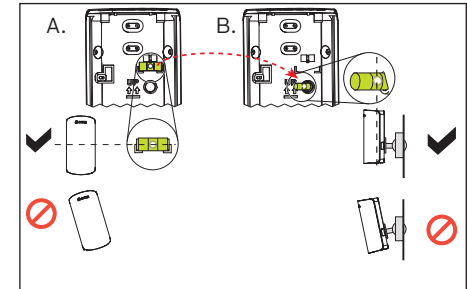

Figure 4.3: Level detector
2. Use the bubble level to ensure the base is level from side to side. Refer to *Figure 4.3-A*.
3. Remove the bubble level and place it into the bubble level holder to verify vertical alignment. This is applicable for swivel mount brackets only. Refer to *Figure 4.3-B*.